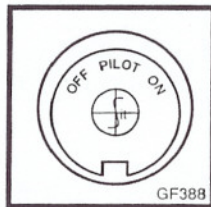

Fig. 11.
7. Push in control knob all the way and immediately light pilot depressing the piezo igniter button at least once every second until a flame appears. Continue to hold the control knob in for about one (1) minute after the pilot is lit. Release knob and it will pop back out. Pilot should remain lit. If it goes out, repeat steps 4 through 7.
8. After the pilot has been lit, the burner can be turned on by turning knob counterclockwise  to the ON position. See figure 11.